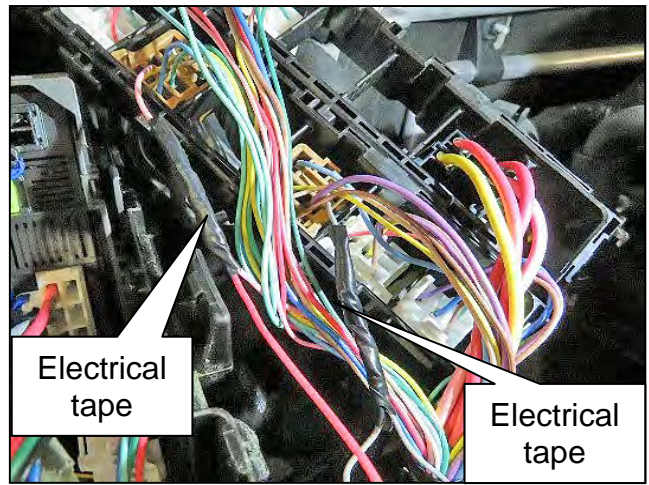

Figure 25
20. Wrap both solder sleeve connectors with electrical tape, as shown in Figure 25.